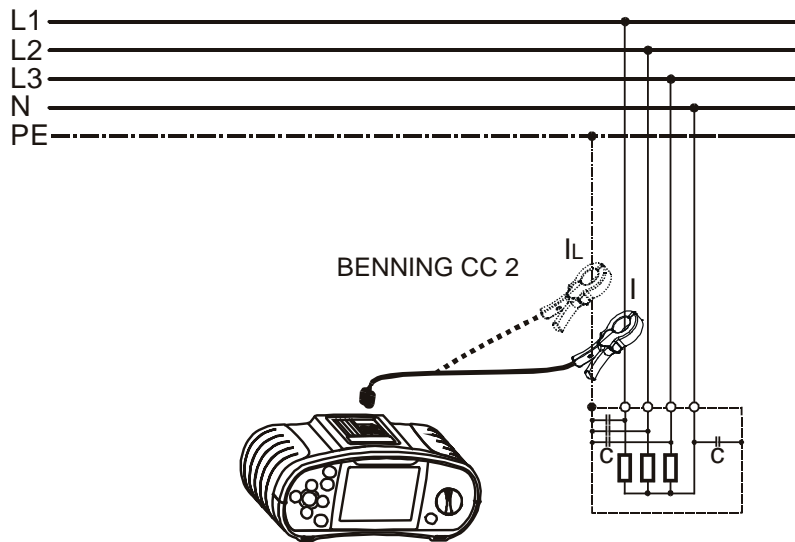

Fig. 5.48: Current clamp connection
Step 2 Follow the connection diagram shown in fig. 5.48 to perform the TRUE RMS current measurement. Use the **Help** function if necessary.